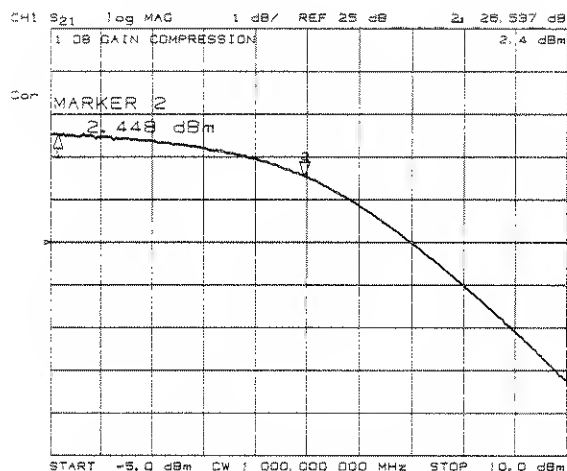

Figure 2. Display of the amplifier's CW frequency gain compression
**AMP3.** This sequence recalls measurement parameters from instrument state reg 3 and performs a CW frequency, swept power, gain compression measurement of an amplifier. The 1 dB gain compression point is displayed using a marker search function. The resulting display is shown in figure 2. Once completed, this sequence calls sequence position 4 (AMP4).